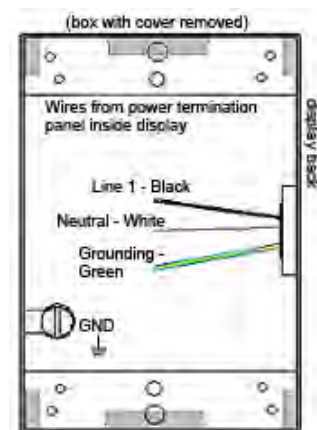

Figure 8: Power Termination Wiring
3. Inside the external power termination j-box, connect the power wires to the wires coming from the display interior using wire nuts. Refer to **Figure 8** for a diagram.